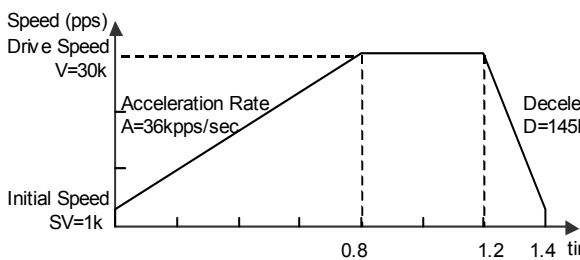
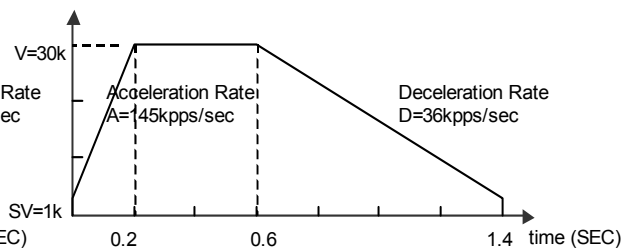

Fig. 2.11 Non-Symmetrical Linear Acceleration Driving (acceleration < deceleration)
Fig. 2.12 Non-Symmetrical Linear Acceleration Driving (acceleration > deceleration)
When an object is to be moved using stacking equipment, the acceleration and the deceleration of vertical transfer need to be changed since a gravity acceleration is applied to the object. This IC can perform automatic deceleration in fixed driving in non-symmetrical linear acceleration where the acceleration and the deceleration are different. It is not necessary to set a manual deceleration point by calculation in advance. Fig. 2.11 shows the case where the deceleration is greater than the acceleration and Fig. 2.12 shows the case where the acceleration is greater than the deceleration. In such non-symmetrical linear acceleration also, the deceleration start point is calculated within the IC based on the number of output pulses P and each rate parameter.
- In the case of acceleration > deceleration (Fig. 2.12), the following condition is applied to the ratio of the acceleration and the deceleration.
- If acceleration > deceleration (Fig. 2.12), the greater the ratio of acceleration A to deceleration D becomes, the greater the number of creep pulses becomes (about maximum of 10 pulse when A/D=10 times). When creep pulses cause a problem, solve the problem by ①increasing the initial speed or ②setting a minus value to the acceleration counter offset.